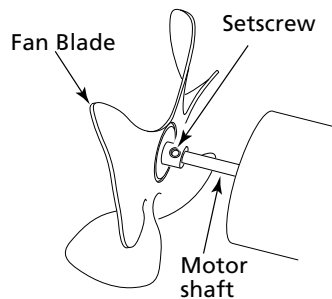

Figure 6 - Fan, Motor Shaft, and Setscrew Location
2. Use hex wrench to loosen setscrew which holds fan blade to motor shaft (See Figure 6)..